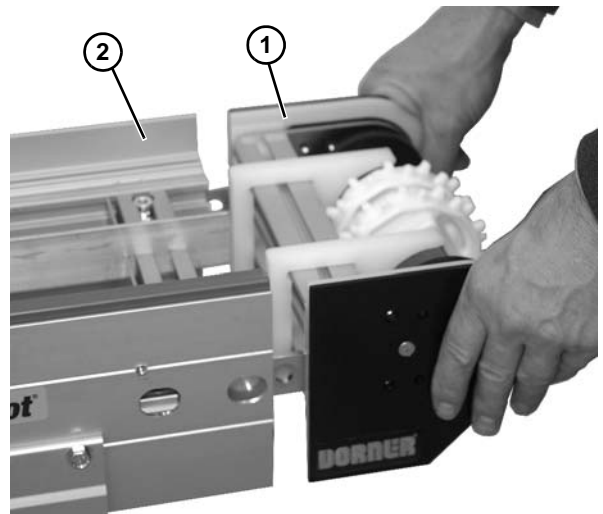

Figure 48
3. Remove the drive tail assembly (Figure 48, item 1) from the frame (Figure 48, item 2).